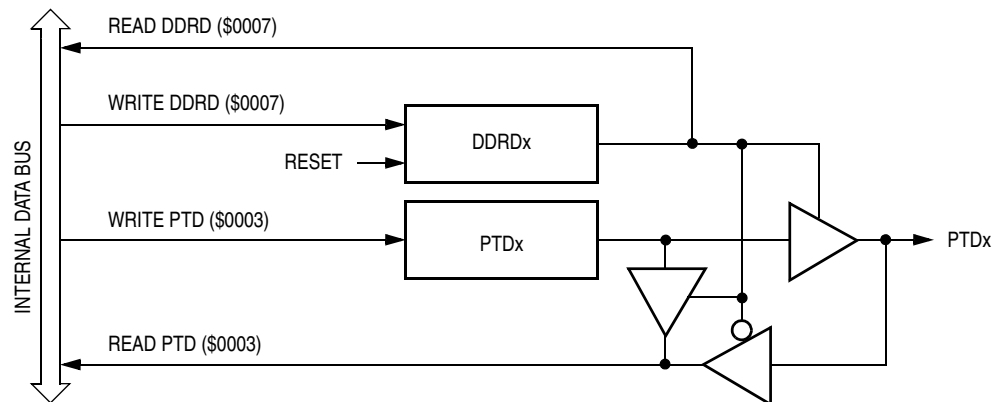

**Figure 12-13. Port D I/O Circuit**
**Figure 12-13** shows the port D I/O circuit logic.